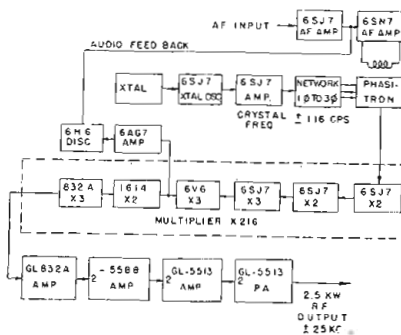

Fig. 1—Block diagram of aural transmitter
• Let us assume that you are the owner of an existing AM broadcasting station and would like to know how much the basic equipment costs of an FM station might be if you mounted the FM antenna on top of your present tower. An FM Economograph in Fig. 1 gives you a quick answer.
← Fig. 1—Determining station equipment costs when FM antenna is mounted atop existing AM antenna tower. (See text for explanation)
Now all of these Economographs and Nomographs can be worked backwards as well as forward. One can start with effective radiated power in Fig. 3 and work back to find a combination of transmitter, antenna and transmission line. Then use Fig. 1 or 2 to find the total cost of these components. Another problem might be to start with a certain cost in dollars that one must not exceed and use Fig. 1 or 2 to find combinations of the basic components. Then Fig. 3 can give the radiated power for each combination and the most watts for the fewest dollars would be the wisest choice.
Fig. 1 shows the typical input circuit for the lower channel visual transmitter.